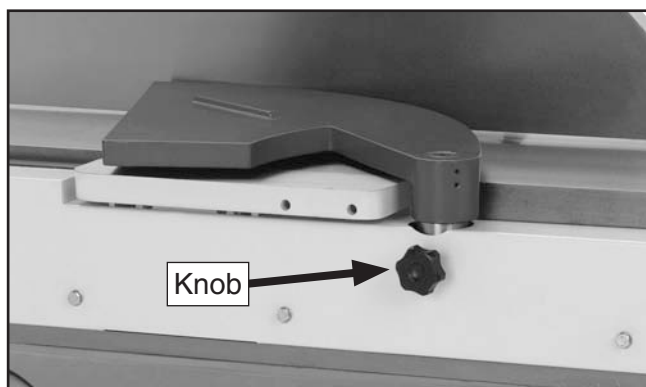

Figure 14. Cutterhead guard installed.
6. Install the cutterhead guard by sliding the post into the receptacle on the front of the machine (see **Figure 14**), adjust the guard height approximately $\frac{1}{8}$ " over the outfeed table, and tighten the knob.